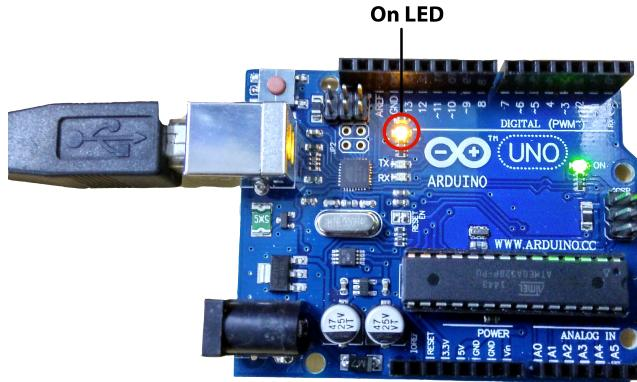

Figure 4.5: LED experiments directly on Arduino Uno board, without the Shield
**Note:** All the above four experiments have been done with the Shield affixed to the Arduino Uno board. One may run these experiments without the Shield as well. But in this case, pin number 13 has to be used in all experiments, as pin 13 lights up the LED that is on the Arduino Uno board. For example, in Arduino Code 4.1, one has to replace both occurrences of number 9 with 13. In this case, one will get the LED of Arduino Uno board light up, as shown in Fig. 4.5.